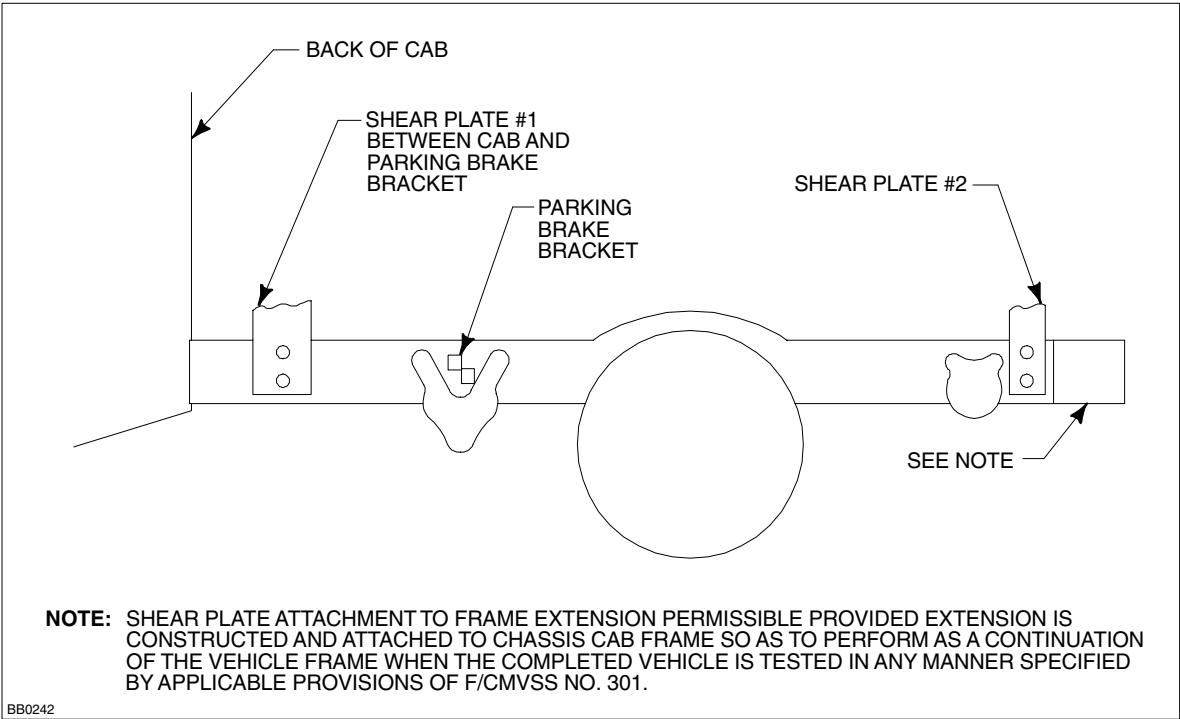

FIGURE 1 - TYPICAL RANGER SHEAR PLATE ATTACHMENT
2. The frame to SUB spacers have a web dimension of 101.6 mm [4 in] minimum and the upper and lower flanges to be 57.0 mm [2.25 in], using 6.35 mm [0.25 in] HRLC steel. The spacer minimum length is 76.2 mm [3 in] for the front spacer and 152.4 mm [6 in] for the rear. These spacers will accommodate the recommended fuel filler pipe clearance provided they are installed 25.4 mm [1 in] or more from any fuel filler pipe. See Figure 1 on the next two pages for additional information.
- 3/8 inch thick HRLC steel material, with a minimum of four fasteners for each shear plate, or two fasteners installed in the frame if the shear plate is welded to the SUB structure. Detailed shear plate design recommendations are shown in the sketches in Figure 1 on this page.
- Use 5/8 inch diameter, grade 8 bolts, nuts and washers, four per side to attach shear plates to the frame, see Figure 1. **DO NOT WELD THE SHEAR PLATES TO THE FRAME.**